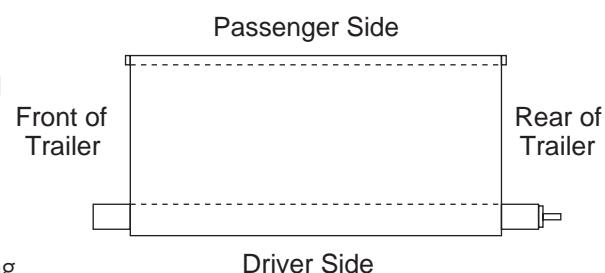

Figure 13
9) Create a Fixed tube (2) by assembling the two pieces of 1-1/8" galvanized tubing at the joint and welding them together.
10) Spread the tarp (3) out on a flat surface.
11) Lay the fixed tube (2) along the pocket in mesh tarp. Allow the fixed tube (2) to extend 1" beyond each end of the tarp (3) and cut the rod to length.
12) Insert the fixed tube (2) into the smaller pocket in the tarp (3).
13) See Figure 13. Slide the roll-up bar assembly (1) into the larger pocket in the tarp (3). Note the position of the long adapter shaft on the roll-up bar points toward the rear of the trailer.
15) While the tarp (3) is laying flat, wind the tarp (3) onto the roll-up bar (1) by rolling it toward the fixed tube (2).